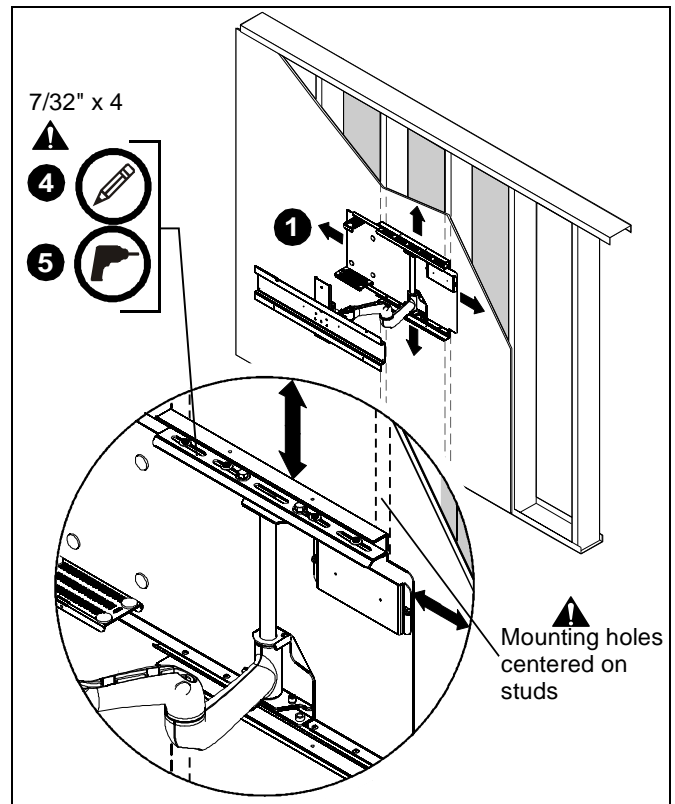
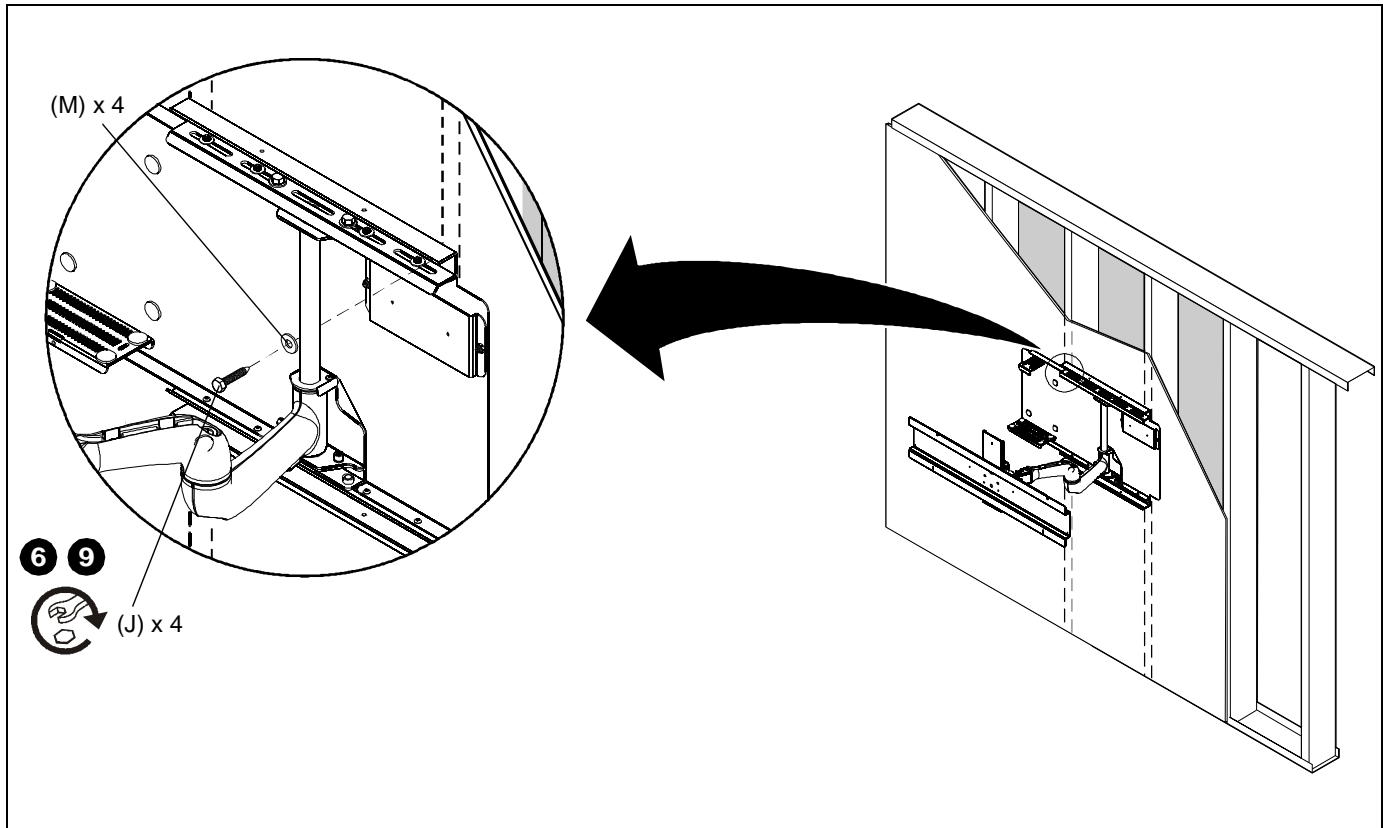

Figure 2
Figure 3
2. Using a stud sensor locate two wood studs 16" apart on center. (See Figure 2)
4. Use a pencil to mark four mounting holes making sure mounting holes are located as close as possible to center of studs. (See Figure 2)
5. Drill four pilot holes where the mounting holes were marked using a 7/32" (6mm) drill bit. (See Figure 2)
6. Install two 5/16" x 2-1/2" lag bolts (J) and two 0.135" thick washers (M), through mounting holes in upper wall channel and into pilot holes. DO NOT tighten at this time.
9. Install two 5/16" x 2-1/2" lag bolts (J) and two 0.135" thick washers (M), through mounting holes in lower wall channel and into pilot holes. (See Figure 3)